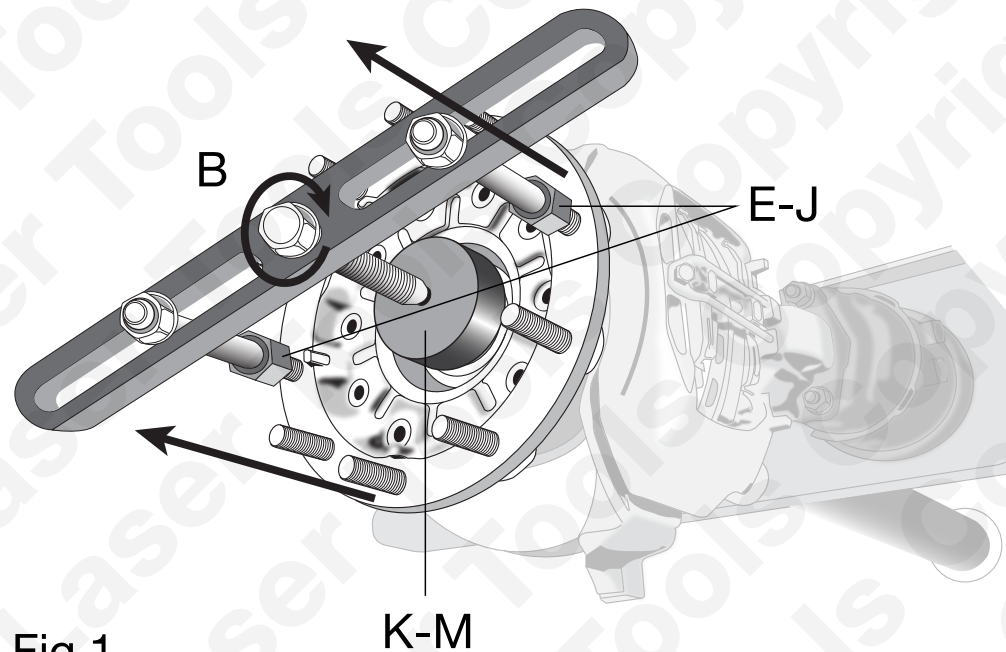

Fig 1
Refer to Figure 1. Assemble components as shown, choosing the correct stud thread adaptors (E – J) to suit the wheel studs. **Ensure that the central force screw (B) and the stud thread adaptors are adequately lubricated with molybdenum disulphide grease.**